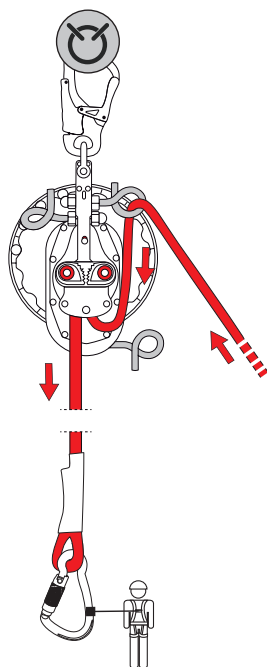

Fig.6
- d) abseil the person, sliding the loose rope (fig.6),